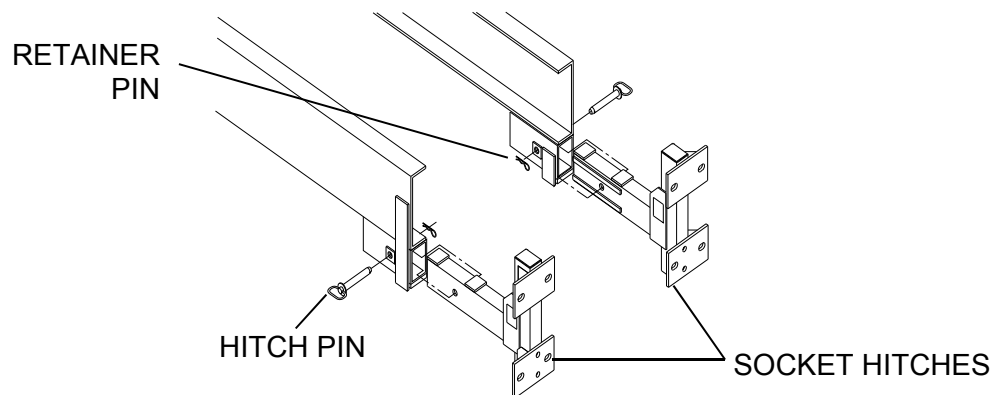

Figure 32
- E. Remove the Socket Hitches from the Underride Socket Receivers by removing 1 x 6 1/4" Hitch Pins and Retainer Pins*(See Figure 32).